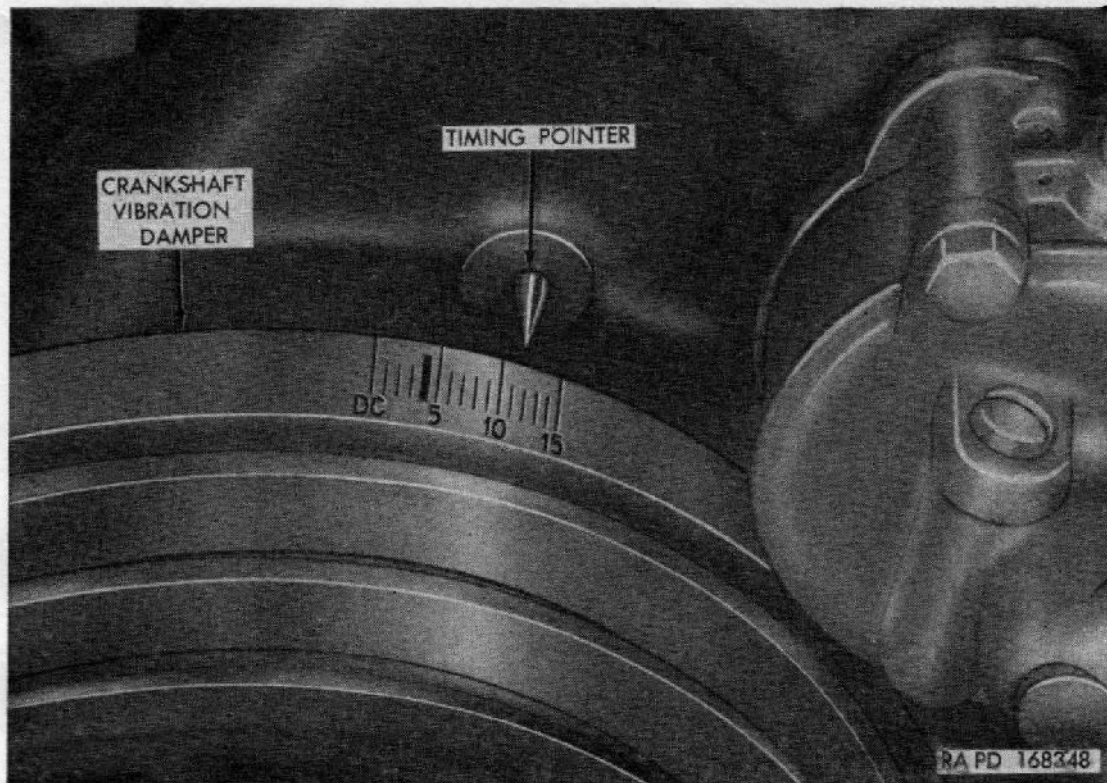

Figure 70. Timing pointer and marks.
- (1) Efficient operation of engine requires delivery of a spark in combustion chamber when piston is four degrees before top dead center on compression stroke. Timing is checked by means of a timing pointer, set in timing gear cover, and degree marks scribed on outer rim of crankshaft vibration damper (fig. 70).
- (3) Apply chalk to the mark on the crankshaft vibration damper to permit easy observation. Then, with engine running at idle (450 rpm), direct beam of timing light down at timing pointer (fig. 70). The relation of timing marks on rotating damper with timing pointer can be seen by flashes of timing light. Timing is correct when pointer registers with the four-degree mark when light flashes.
- (a) Turn engine over by small increments with starter until four degree timing mark stops in line with timing pointer (fig. 70).